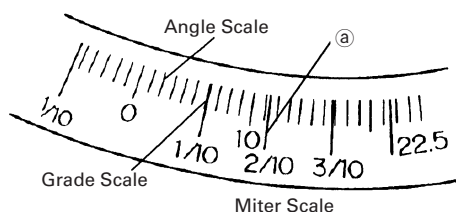
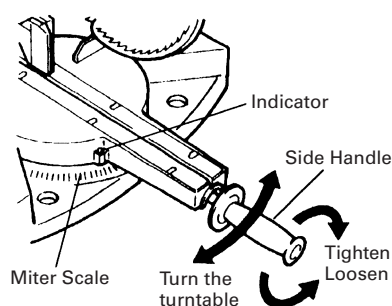

Fig. 25
Fig. 27
- (1) Loosen the side handle and adjust the turntable until the indicator aligns with the desired setting on the miter scale (Fig. 27).
- (2) Re-tighten the side handle to secure the turntable in the desired position.
- (3) The miter scale (Fig. 25) indicates both the cutting angle on the angle scale and the gradient on the grade scale.
- (5) Therefore, to cut a workpiece at a grade of 2/10, set the indicator to position ② as indicated in Fig. 25.